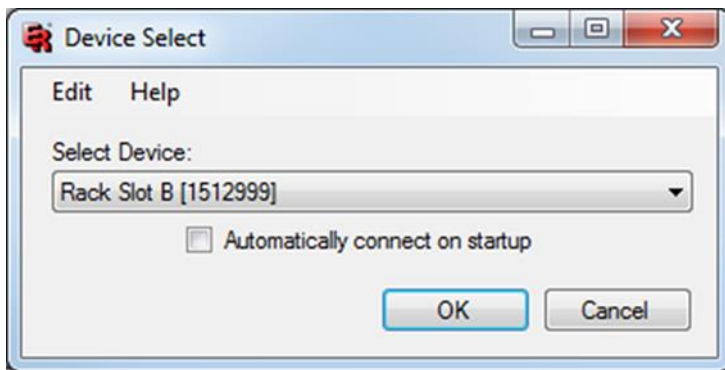

Figure 11
The user will be prompted to select the control unit (*Figure 11*). When selecting an instrument, the previously set instrument label will be shown, if any, along with the serial number of the control unit in brackets.
- *Select Another System...*: This allows a different ER-10X system to be selected. The Instrument Select dialog window (*Figure 11*) will pop up after selecting this.